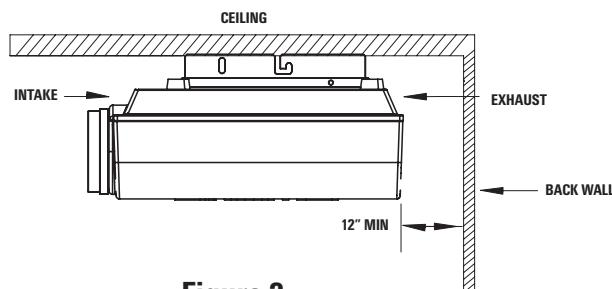

Figure 2
2. In rooms where the projector is mounted near a rear wall, be sure to allow adequate clearance for proper ventilation. Allow at least 12" of rear-facing clearance. (See Figure 2). Improper ventilation is a cause the TransVision projector to overheat, shortening lamp life and reducing the reliability of electronic components. Projector failures due to overheating will invalidate the manufacturer's warranty.